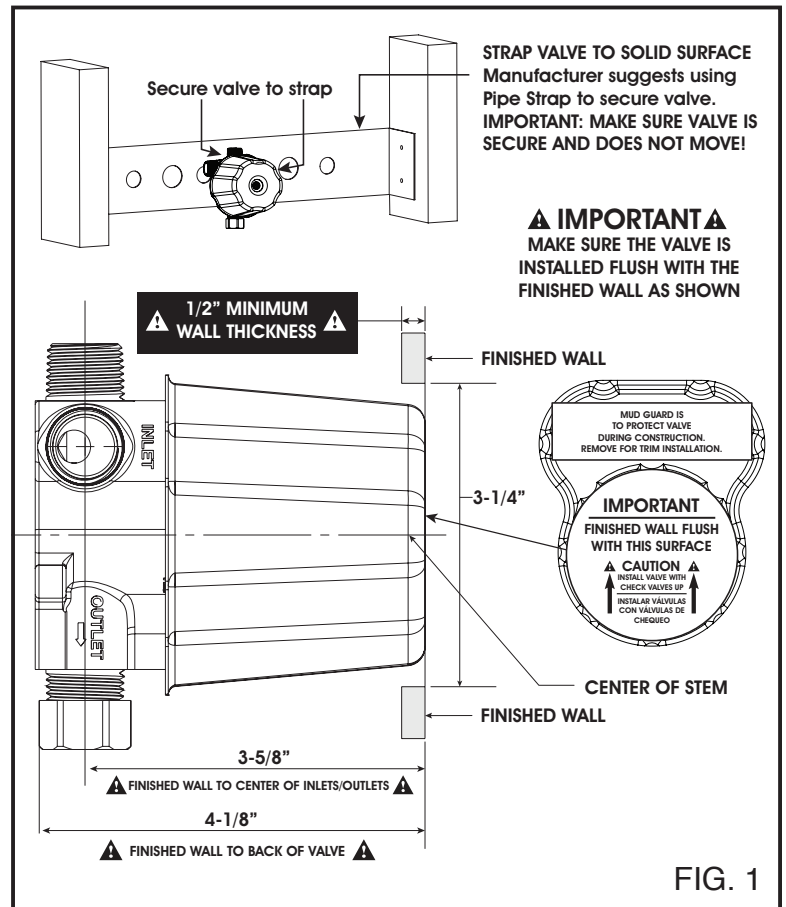

FIG. 1
1. Strap securely into place using plumber supplied pipe strap. FIG. 1. Connect piping to 1/2" NPT female connections or 1/2" slip fit. NOTE: "H & C" MARKINGS ON TOP OF THE SCREWS.
2. The depth of rough-in should account for thickness of wall materials to be used, combining thickness of wall board and finished wall materials. It is CRITICAL TO PLACE THERMO VALVE MUD GUARD FLUSH WITH THE FINISHED WALL. FIG. 1.